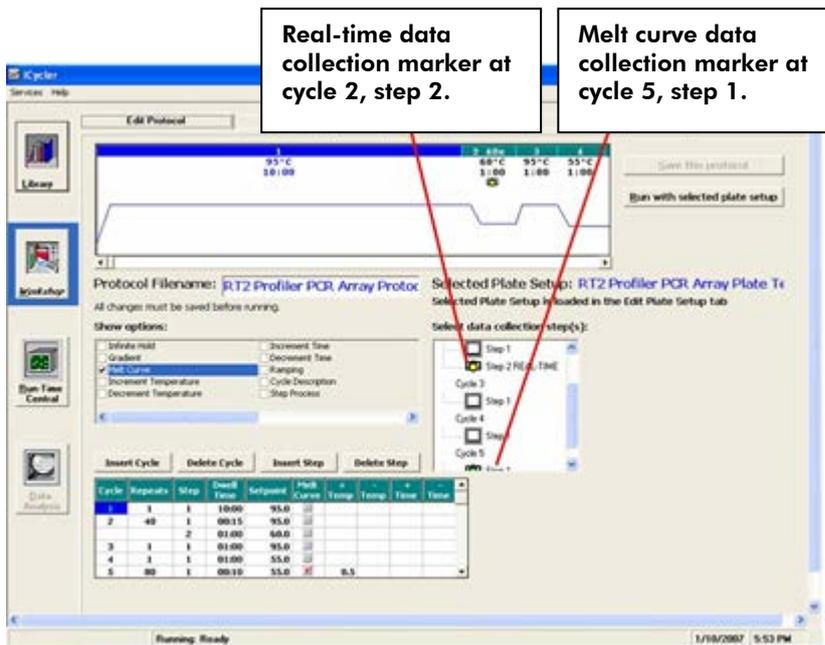

Figure 1. Protocol setup.
2. Click on the Library module on the left panel. Select the View Protocol tab. Under Protocol Files, select 2StepAmp+Melt.tmo. Click Edit This Protocol on the right; this will open the Edit Protocol tab in the Workshop module. Edit the thermal profile in the table at the bottom of the screen as follows (See Fig 1):